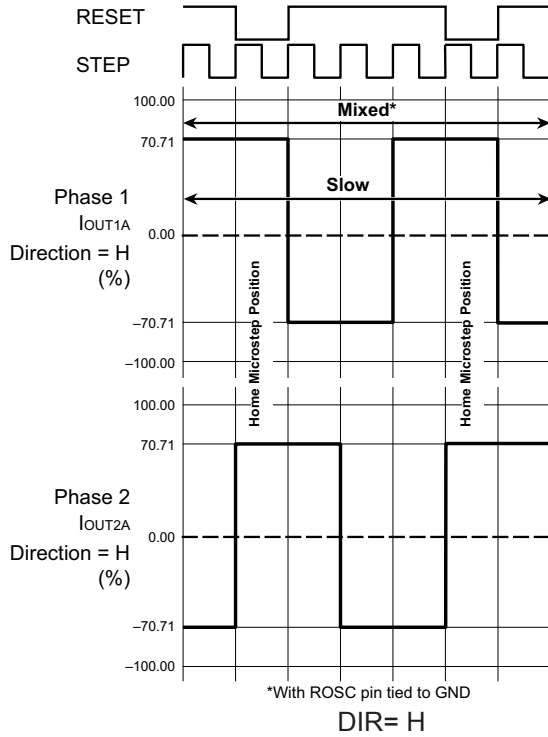

Figure 10: Decay Mode for Full-Step Increments
At power-on or reset, the translator sets the DACs and the phase current polarity to the initial Home state (shown in Figures 10 through 13), and the current regulator to Mixed decay mode for both phases. When a step command signal occurs on the STEP input, the translator automatically sequences the DACs to the next level and current polarity. (See Table 2 for the current-level sequence.) The microstep resolution is set by the combined effect of the MSx inputs, as shown in Table 1.
**Reset Input ( $\overline{RESET}$ ).** The  $\overline{RESET}$  input sets the translator to a predefined Home state (shown in Figures 10 through 13), and turns off all of the FET outputs. All STEP inputs are ignored until the  $\overline{RESET}$  input is set to high.
**Mixed Decay Operation.** The bridge operates in Mixed decay mode, at power-on and reset, and during normal running according to the ROSC configuration and the step sequence, as shown in Figures 10 through 13. During Mixed decay, when the trip point is reached, the A4982 initially goes into a fast decay mode for 31.25% of the off-time,  $t_{OFF}$ . After that, it switches to Slow decay mode for the remainder of  $t_{OFF}$ . A timing diagram for this feature appears in Figure 7.